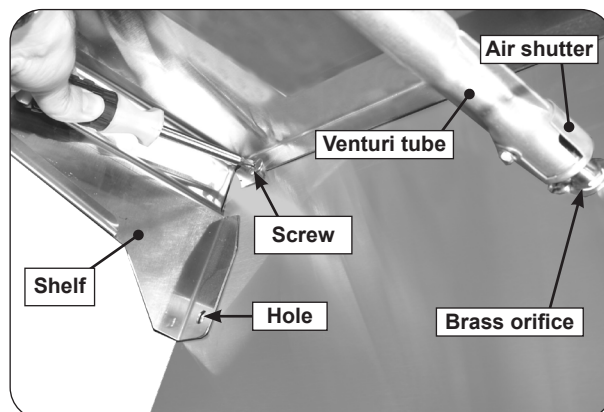

Fig. 26-4 Burner shelf setup (under shelf view)
2. Hold the sideburner shelf up against the left side wall of the grill so that the holes in the shelf line up with the four (4) threaded screw holes in the side wall and the air-shutter end of the sideburner venturi tube fits around the brass orifice protruding from the side of the cart. See Fig. 26-4.
3. Insert and start screws with fingers and then tighten using a Phillips screwdriver. See Fig. 26-4.